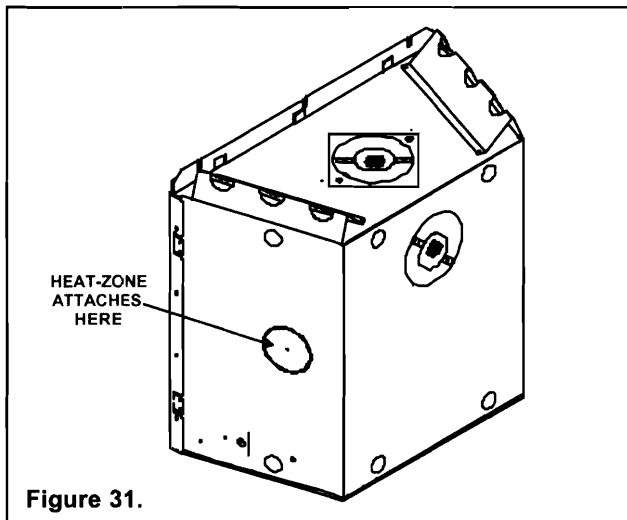

Figure 31.
1. Remove the knockout from the fireplace and discard it (see Figure 31).